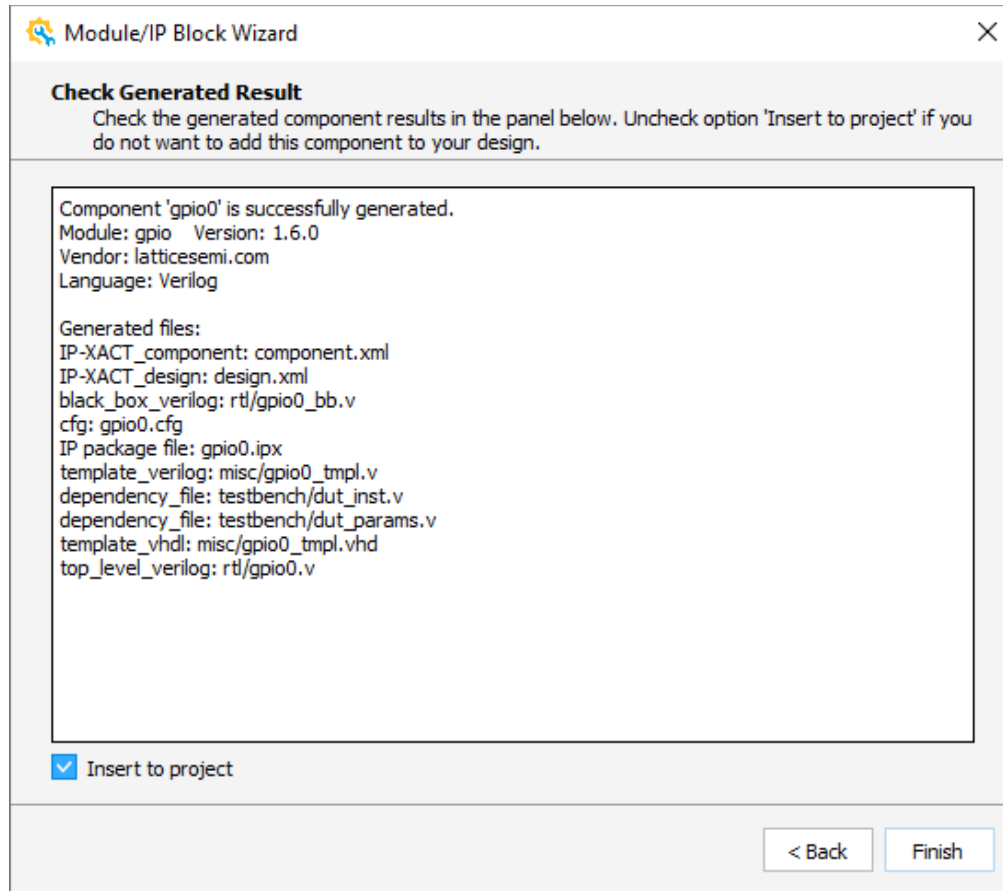

Figure 2.21. Module/IP Block Wizard - Check Generated Result
5. Click **Generate**. Module/IP Block wizard shows the Check Generated Result page (Figure 2.21).
6. Select **Insert to project** (Figure 2.21) at the bottom of the Check Generate Result wizard.